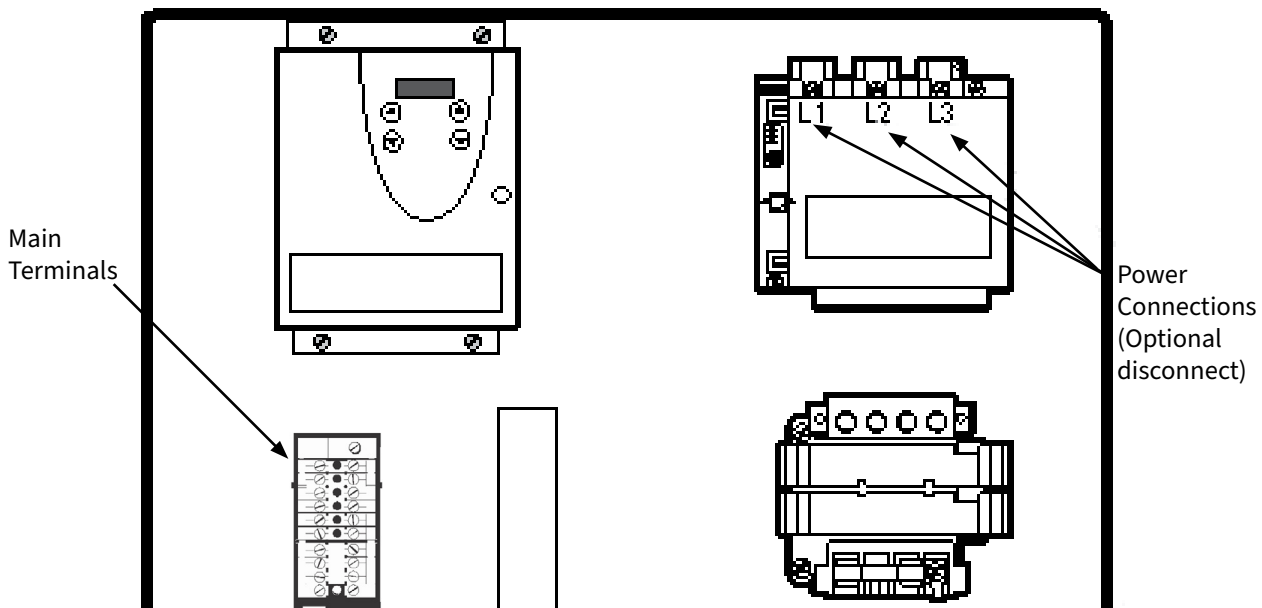

Figure 18: Power Connections in the Control Box
1. Connect the incoming power. **CAUTION:** run the wires (conduit) through the BOTTOM of the control box, up the left side, and connect them into the terminal strip or optional disconnect. (See Figure 18). Bringing in power from the top of the control box will void the warranty.